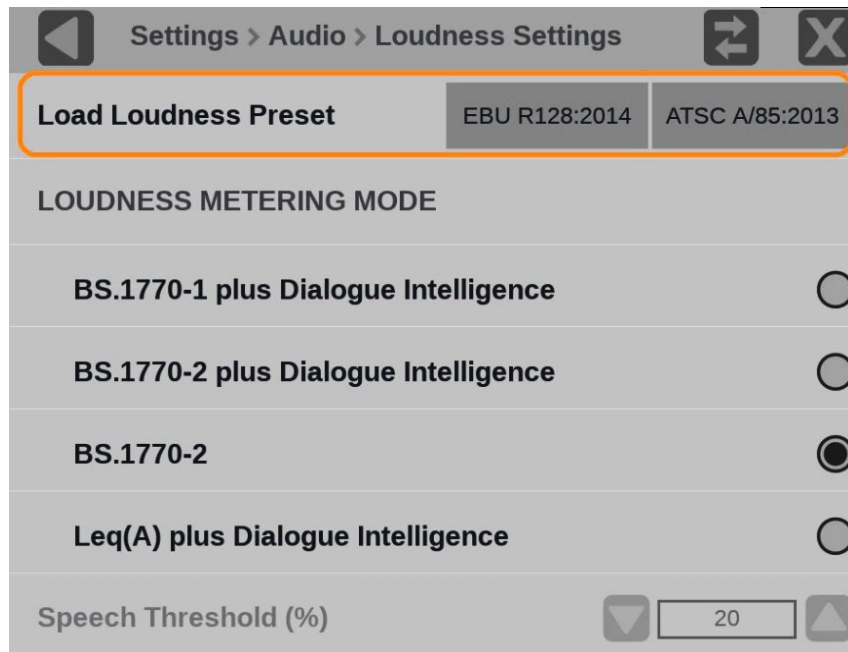

Figure 56: Loudness Settings with the Loudness preset options marked
4. Load a standard preset: Select **EBU R128:2014** or **ATSC A/85:2014** for a pre-defined set of loudness metering configuration. (See Figure 56.)